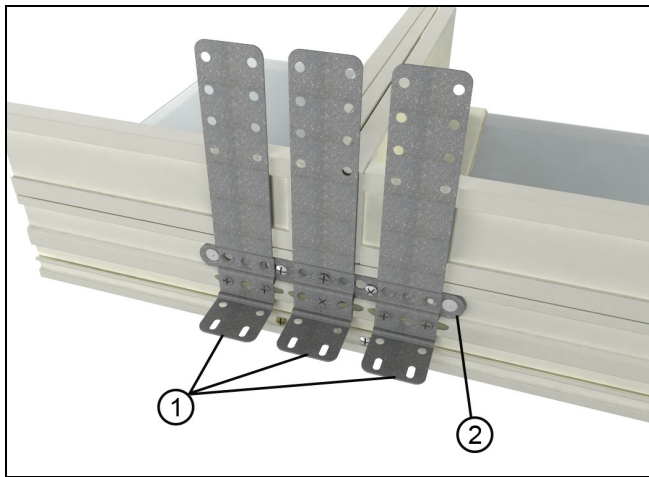
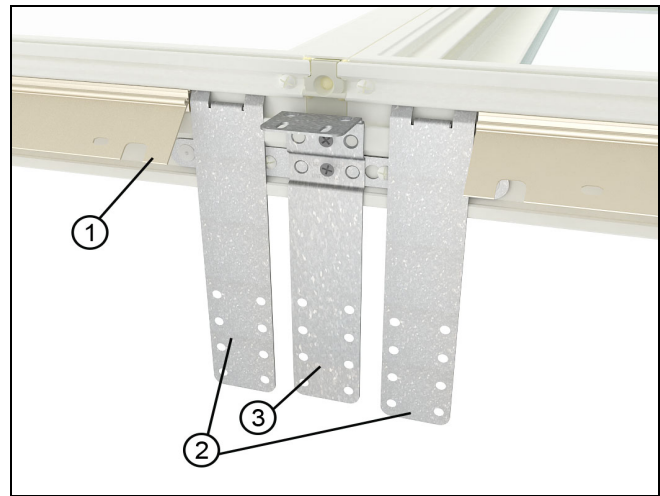

Figure 13 At jamb
Figure 14 At sill
7. For mulls with 1/2" mull reinforcement, remove existing shipping screw and apply third 90-degree bent structural bracket to center of each mullion joint (including sill mullion joints) with two #8 x 2" screws. See Figure 13 (for jamb) and Figure 14 (for sill).